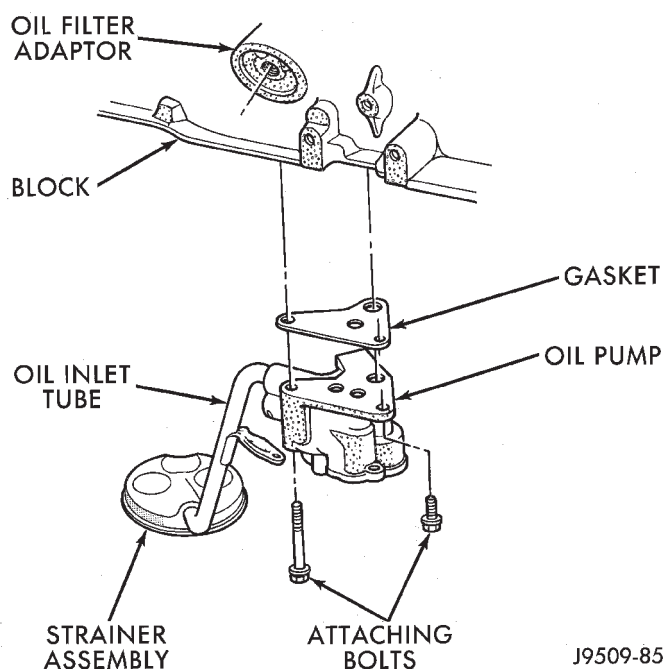

Fig. 61 Oil Pump Assembly
- (1) Drain the engine oil.
- (2) Remove the oil pan.
- (3) Remove the pump-to-cylinder block attaching bolts. Remove the pump assembly with gasket (Fig. 61).